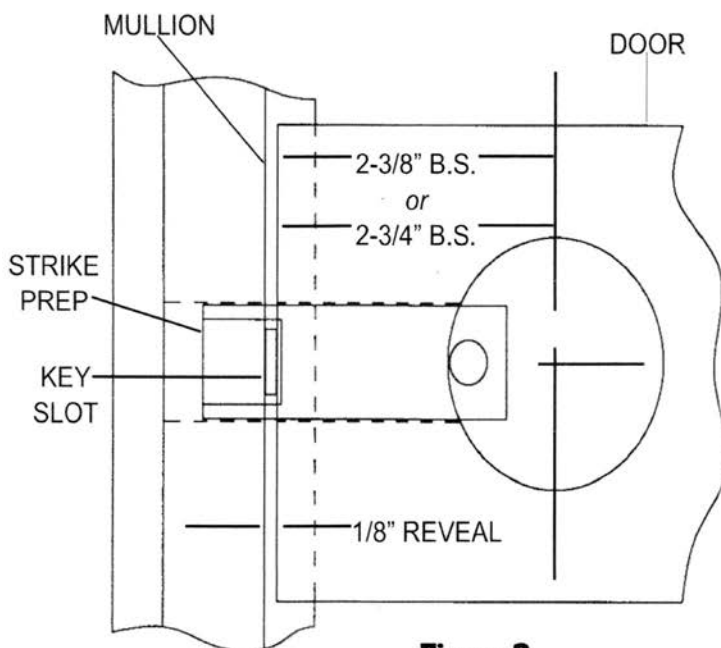

Figure 3
2. Close door into mullion. See **Figure 3**.
3. Slide SideLite Plug into strike prep. The keyslot must be visible. See **Figure 3**.